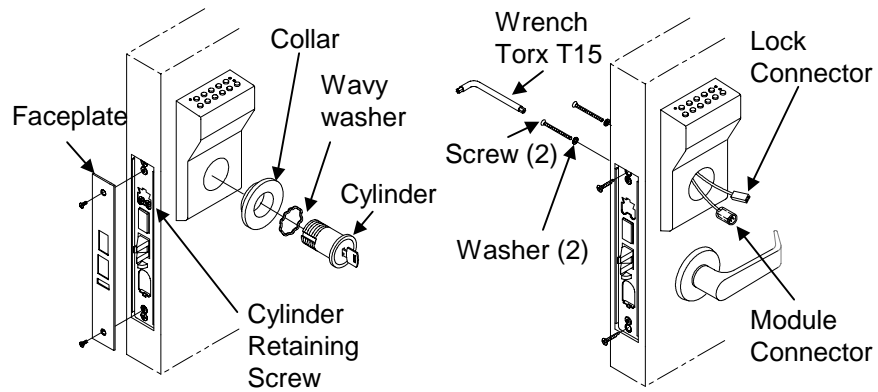

Figure 6 OMNILOCK System With Mortise Locksets
- Step 2 Remove the Faceplate and loosen the Cylinder Retaining Screw (Figure 6).